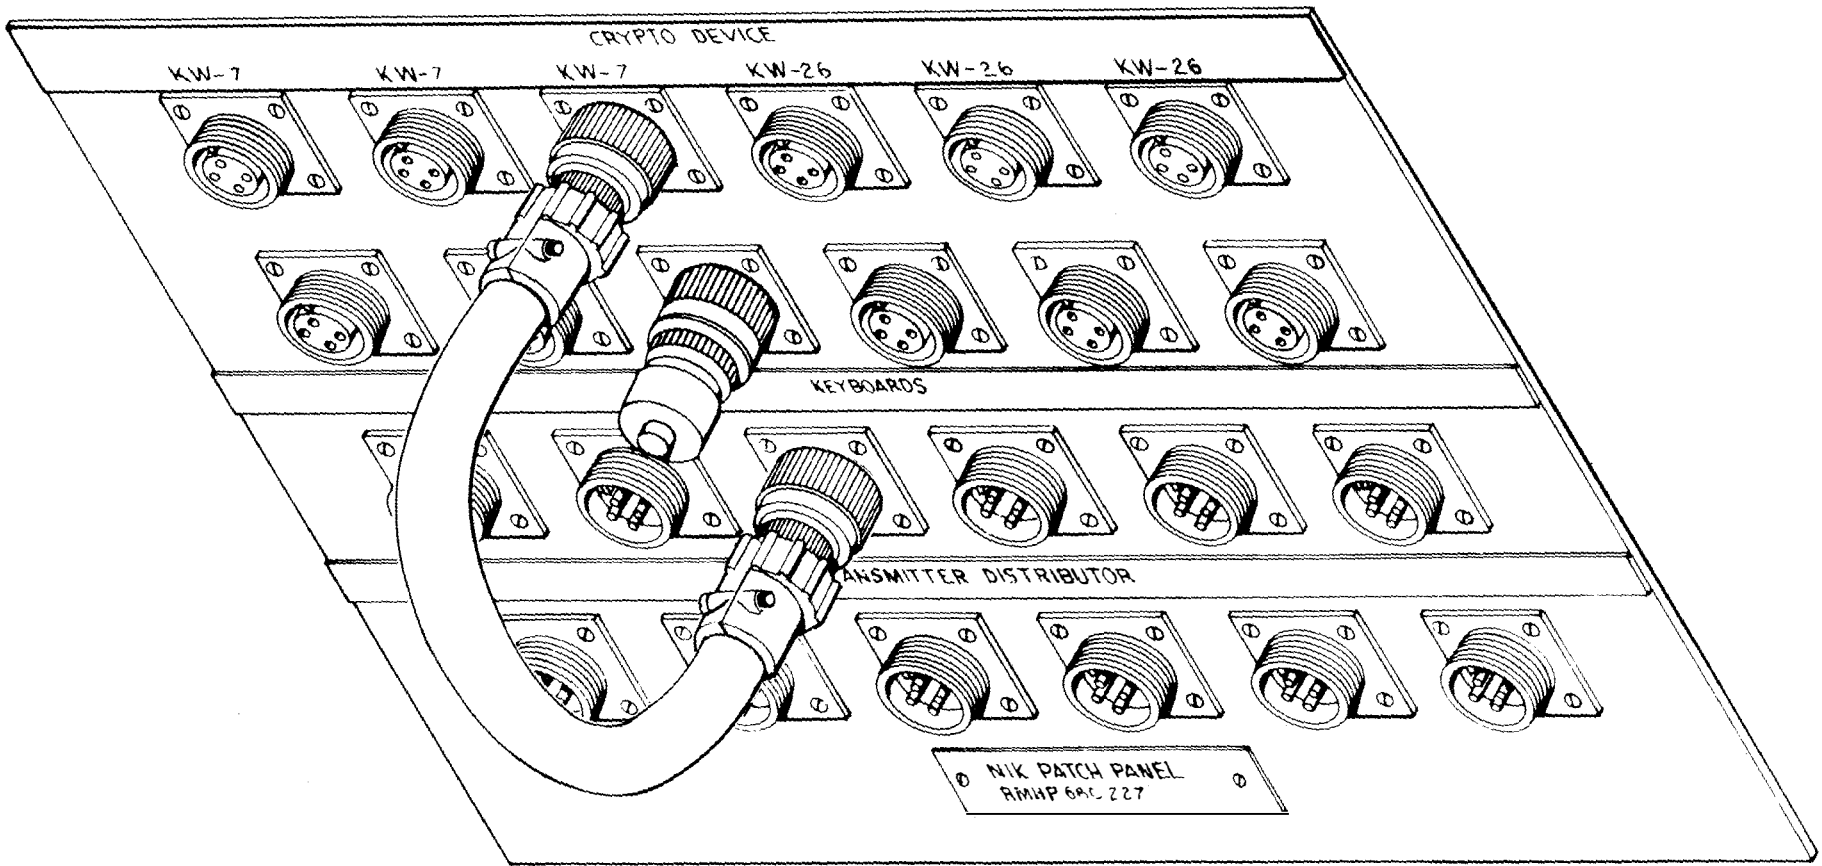

Figure 3.4 Single Patching For Keyboard Using KW-7/TSEC
2. Figure 3.4 through 3.6 shows single patching required for keyboard operation only. Dummy connectors are required.